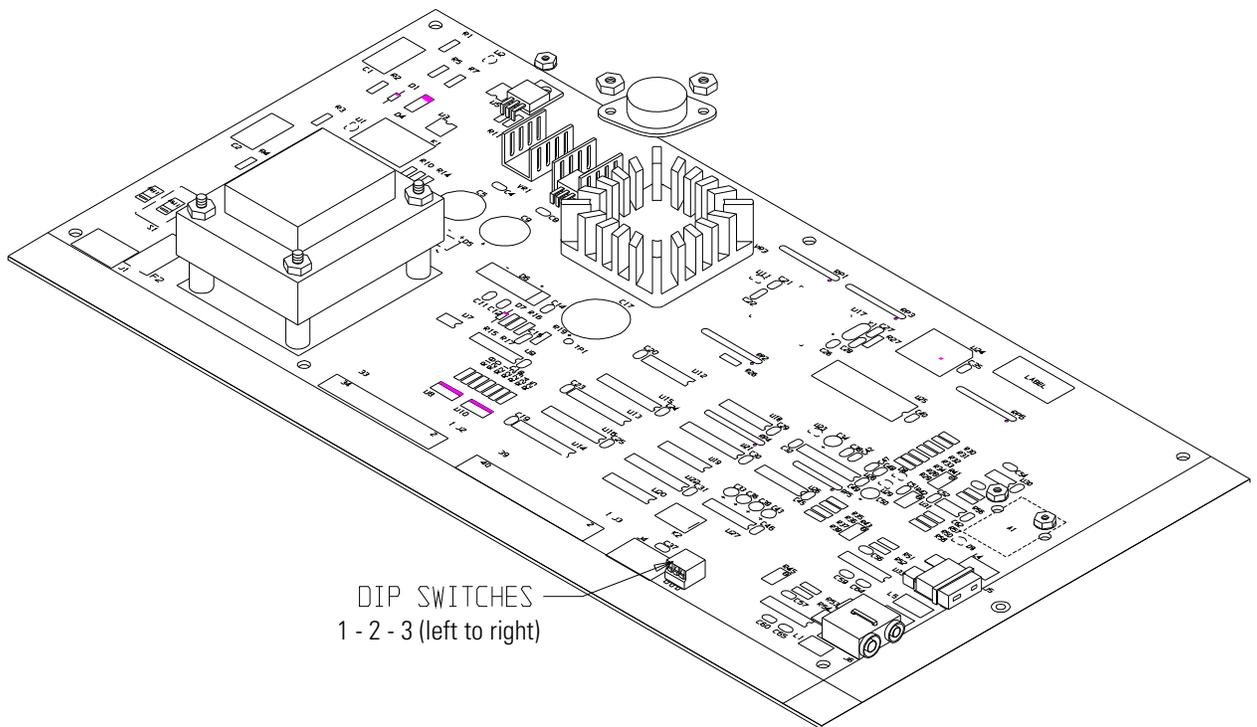

Figure 6. DIP Switch Location
22. Locate the DIP switches on the right side of the microprocessor board (see Figure 6).